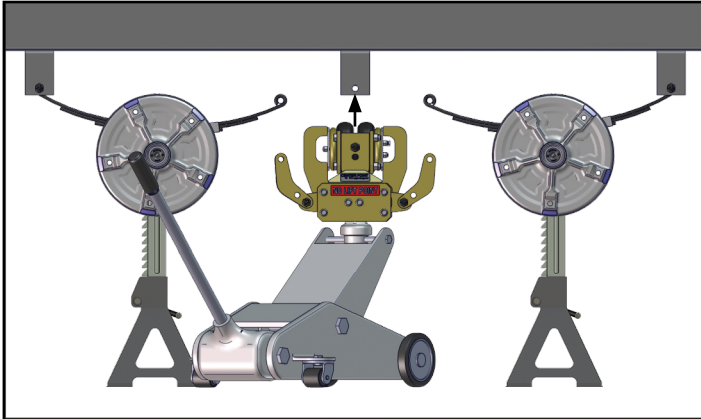

Fig.8
1. Starting on one side of the trailer in the rear, raise the equalizer to the frame hanger (Fig.8) and insert the cross shaft bolt (Fig. 9A).